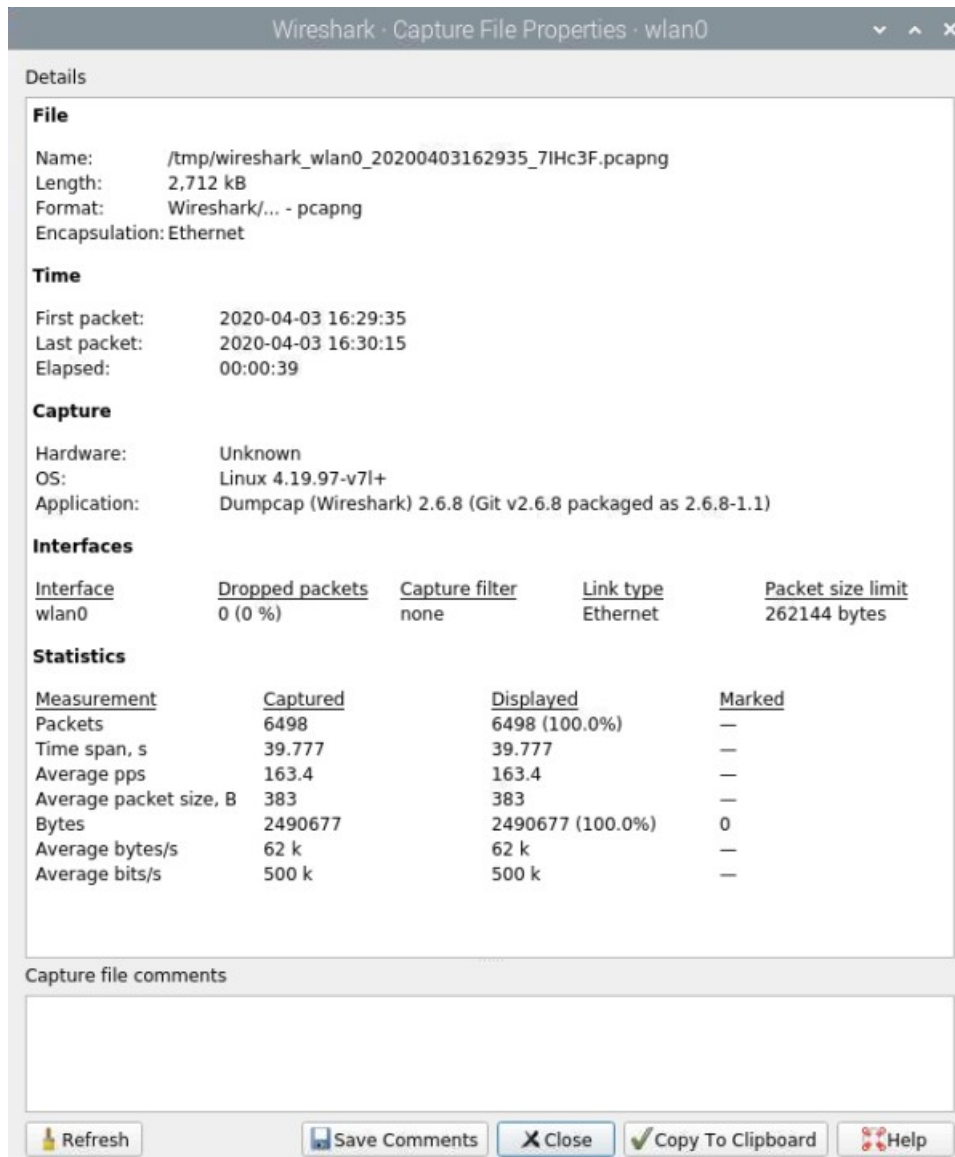

Figure 7.12: Statistics Menu
9. **Generating Statistics.** Under **Statistics** in the menu, you can view “Summary,” “Conversations,” or other advanced options (Figure 7.12). This helps identify top talkers, protocol breakdown, or create graphs of throughput.